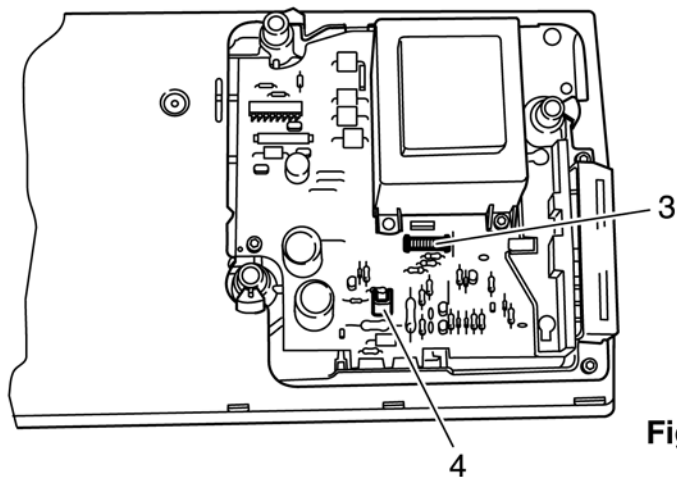

Fig. 108
- Tilt the base plate to the front and remove both connection plugs 3 and 4 from the circuit board (fig. 108).
- Mount both connection plugs 3 and 4 on the circuit board of the base plate (fig. 108).